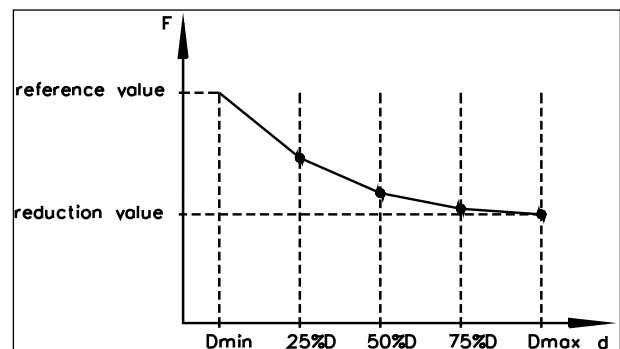

Fig. 29: Parametrisation of taper function
To cope with the unequal tensions requirements of an empty or full reel, a so called Taper Function can be introduced in the control loop. The Taper Function must be parametrised and the corresponding values have to be entered in specially prepared parameters for this function. The basic information that has to be entered in the controller concern the reel dimensions and its change during the un- or rewinding process (see Fig. 29). The taper
- In the parameter group Adjustment Procedures select the procedure *Diameter*. Follow the instruction in Fig. 29: State Diagram Adjustment Procedure “Diameter”.
Set the parameters *Ref25%d*, *Ref50%d*, *Ref75%d* and *Ref100%d* in the 7.6 „Configurations-Parameter List“ such that it results in the desired taper function curve (see Fig. 29).